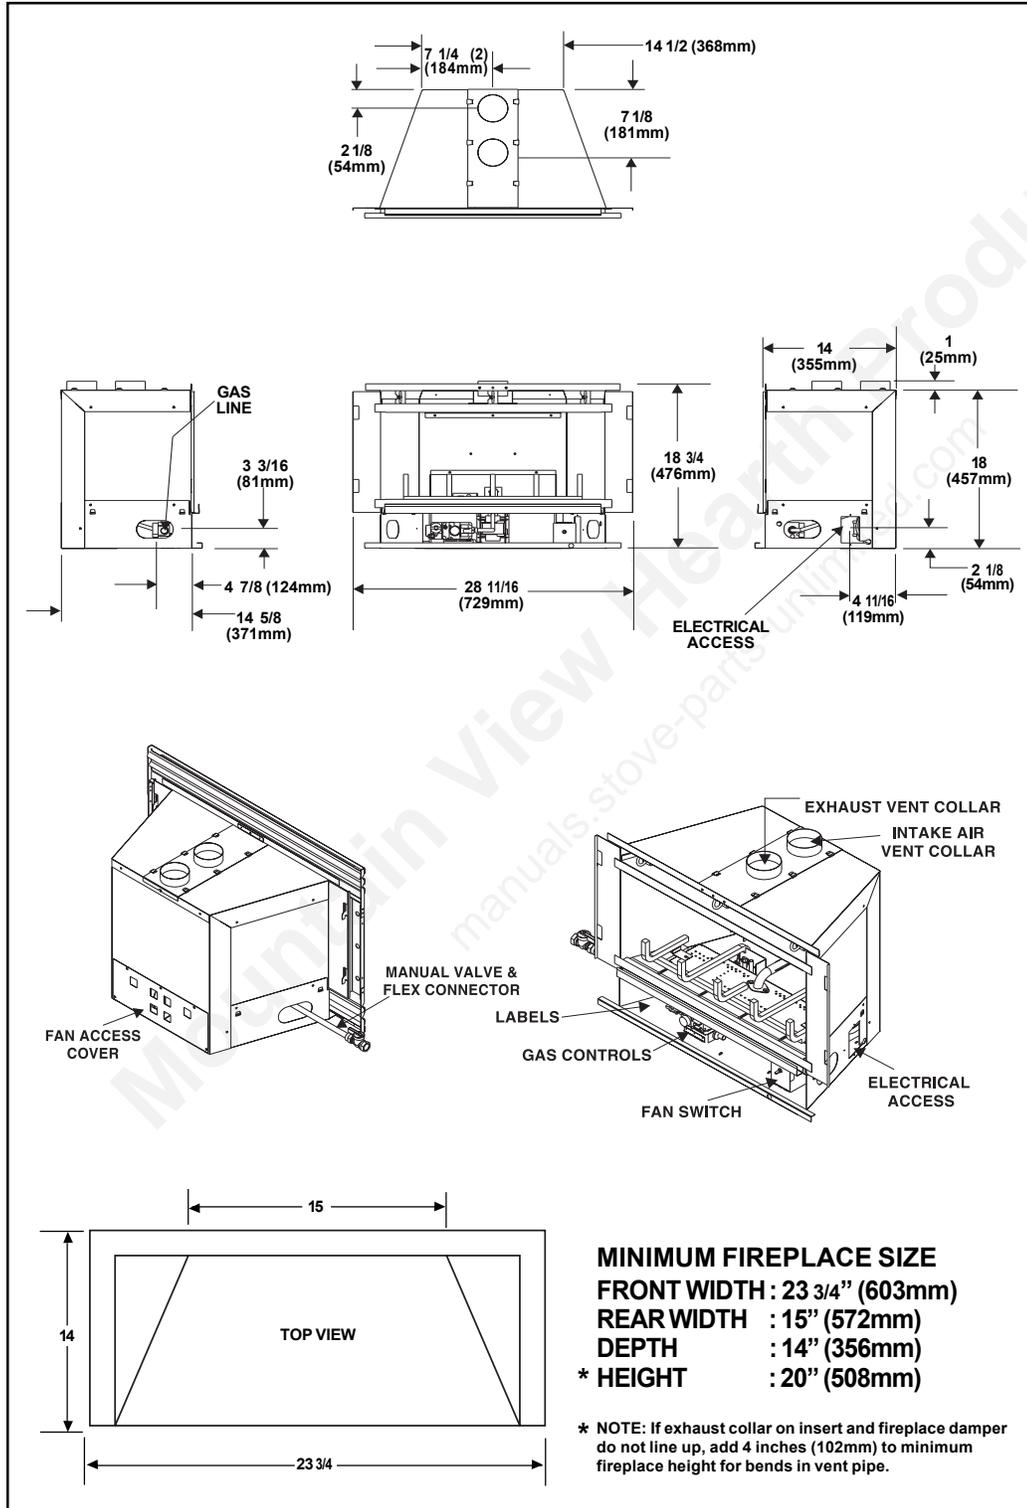

Figure 1. Diagram of the AT-ZC
2. Minimum fireplace opening requirements are shown in Figure 1 of this installation manual. The firebrick (refractory) can be removed from a factory built fireplace in order to gain minimum gas insert opening requirements.